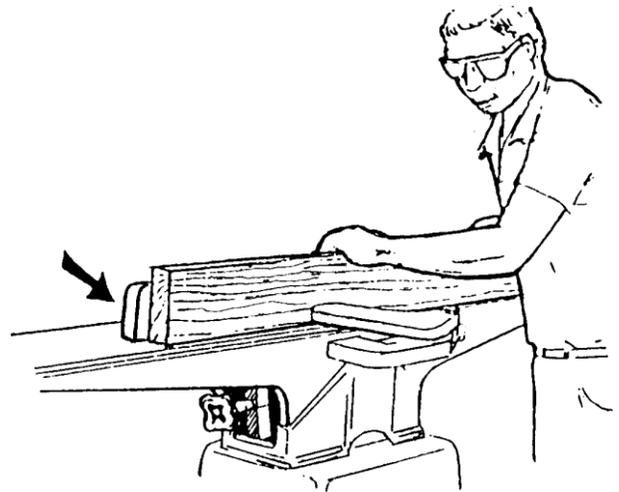

Fig. 26: Move fence forward to expose only the amount of cutterhead required.
4. Keep stock against the fence (Fig. 26).